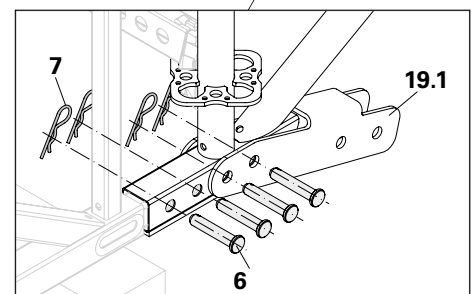

Fig. A1.09a
1. Fit the tube of the ridge element (9) onto the pin of the last element (standard or intermediate element).
2. Slip the bracket (19.1) over the ridge element. (Fig. A1.09a)
3. Fix the bolts (6) and cotter pins (7) – 4x. (Fig. A1.09a) → Secured connection.